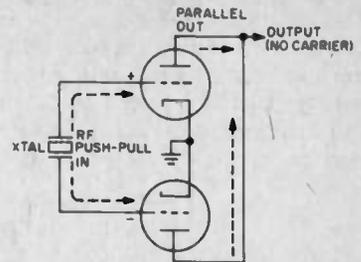

Fig. 5. This balanced modulator suppresses the RF carrier by cancellation in the plate circuit.
**Signal Splitting.** A popular circuit for producing sideband is the "filter" method. It begins by suppressing the carrier in the *balanced modulator* stage shown in Fig. 5. Although there are various ways to construct the circuit, the idea is to take the carrier, which alternates
between plus and minus, then rearrange it to cancel itself out. Note in Fig. 5 that a crystal is generating the RF carrier and feeding it to the grids of a pair of triode tubes. The key action is that the signal is applied in *push-pull* (one grid is driven positive while the other is driven negative), much like push-pull audio in a hi-fi amplifier. But the big difference is at the output connection. In conventional push-pull, the load is split so signals *add* in the output. In the balanced modulator, though, tubes are connected in *parallel*. The net effect is that each tube contributes a signal of opposite polarity—and the result is cancellation in the load. So push-pull in, and parallel out, phases out the carrier.